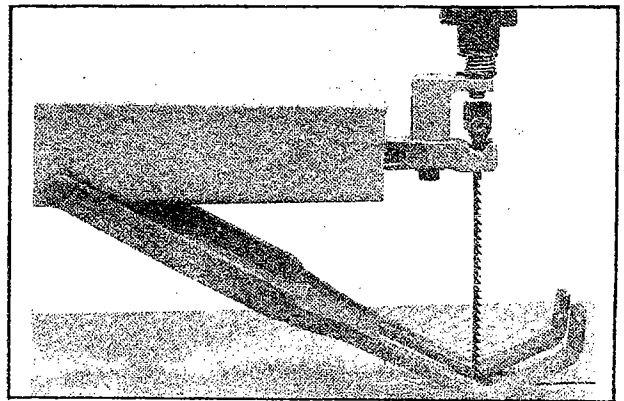

FIGURE 4
4. Turn the lock knob clockwise until a distance of 1 mm. between the lock knob and the upper blade holder is attained. See Figure 4.